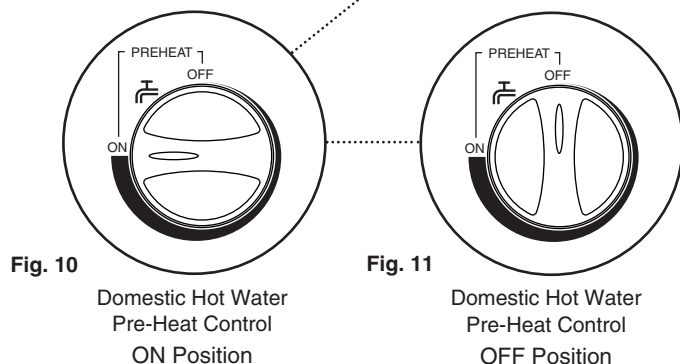

Fig. 10
4. **Domestic Hot Water Pre-Heat:** To enjoy optimum performance of the boiler the pre-heat control should be set fully clockwise to the ON position (Fig. 10). When there is a demand for hot water it will be supplied at approximately 65° C instantaneously.